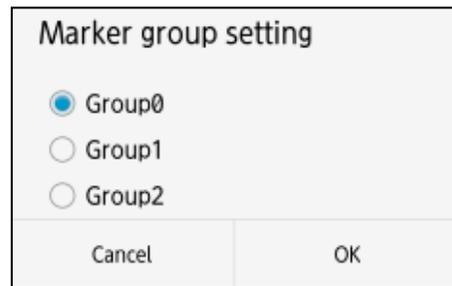

Figure 4-71 Marker group setup screen
- (4) Tap **[Marker group setting]** menu. Then the marker group setup screen (Figure 4-71) appears. The mark ● shows the current setting.
- (5) Tap a desired setting: **[Group 0]**, **[Group 1]**, or **[Group 2]**, and confirm the mark ● is attached to the selected setting.
- (6) Tap **[OK]** to return to the main screen. To cancel the Marker group setting, tap **[Cancel]**, then the screen returns to the main screen without changing the Marker group setting.